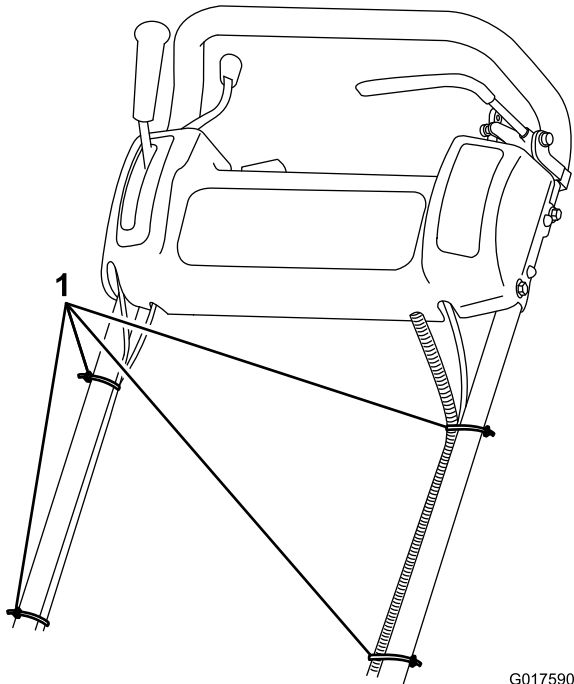

Figure 4
- Secure the cables and wire harness to the handle with cable ties (Figure 4).